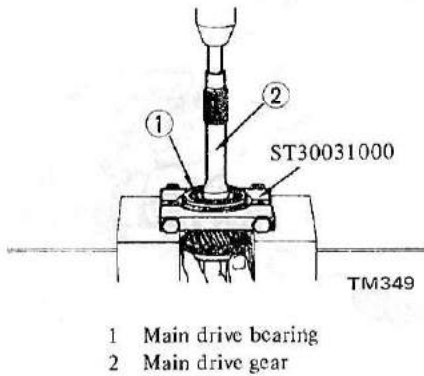

Fig. TM-17 Removing main drive bearing
2. Remove main drive bearing with Bearing Puller ST30031000 and a suitable press. See Figure TM-17.